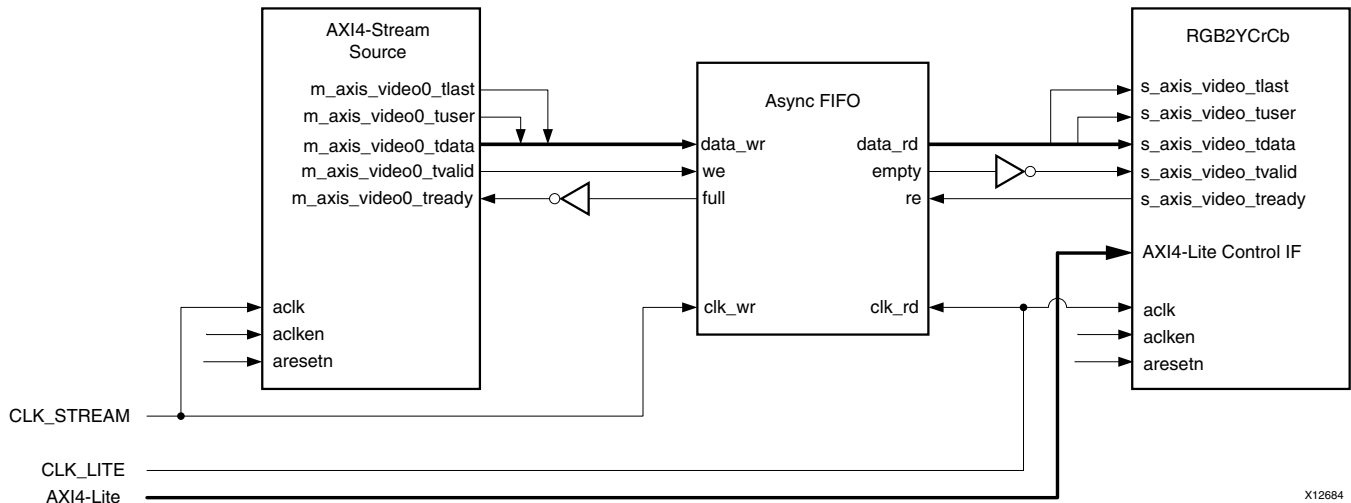

Figure 4-7: RGB2YCrCb CORE Top-Level Signaling Interface
- ($F_{CLK_STREAM} < F_{CLK_LITE}$) then clock-domain crossing logic needs to be inserted before the AXI4-Stream interface, and the RGB2YCrCb core needs to be clocked at the AXI4-Lite clock via the ACLK pin, as shown in Figure 4-7. Alternatively, if F_{CLK_LITE} greater than of the F_{MAX} of the RGB2YCrCb core, clock domain crossing logic can be inserted in front of the AXI4-Lite Control interface.
In either case, Xilinx System Integrator tools, such as EDK, can automatically infer clock-domain crossing logic using the AXI interconnect core, when the tool detects that the master / slave side of AXI4 interfaces operate on different CLK rates. For manual instantiation of clock-domain crossing logic, HDL users can take advantage of the FIFO Generator IP core, as shown in Figure 4-7.